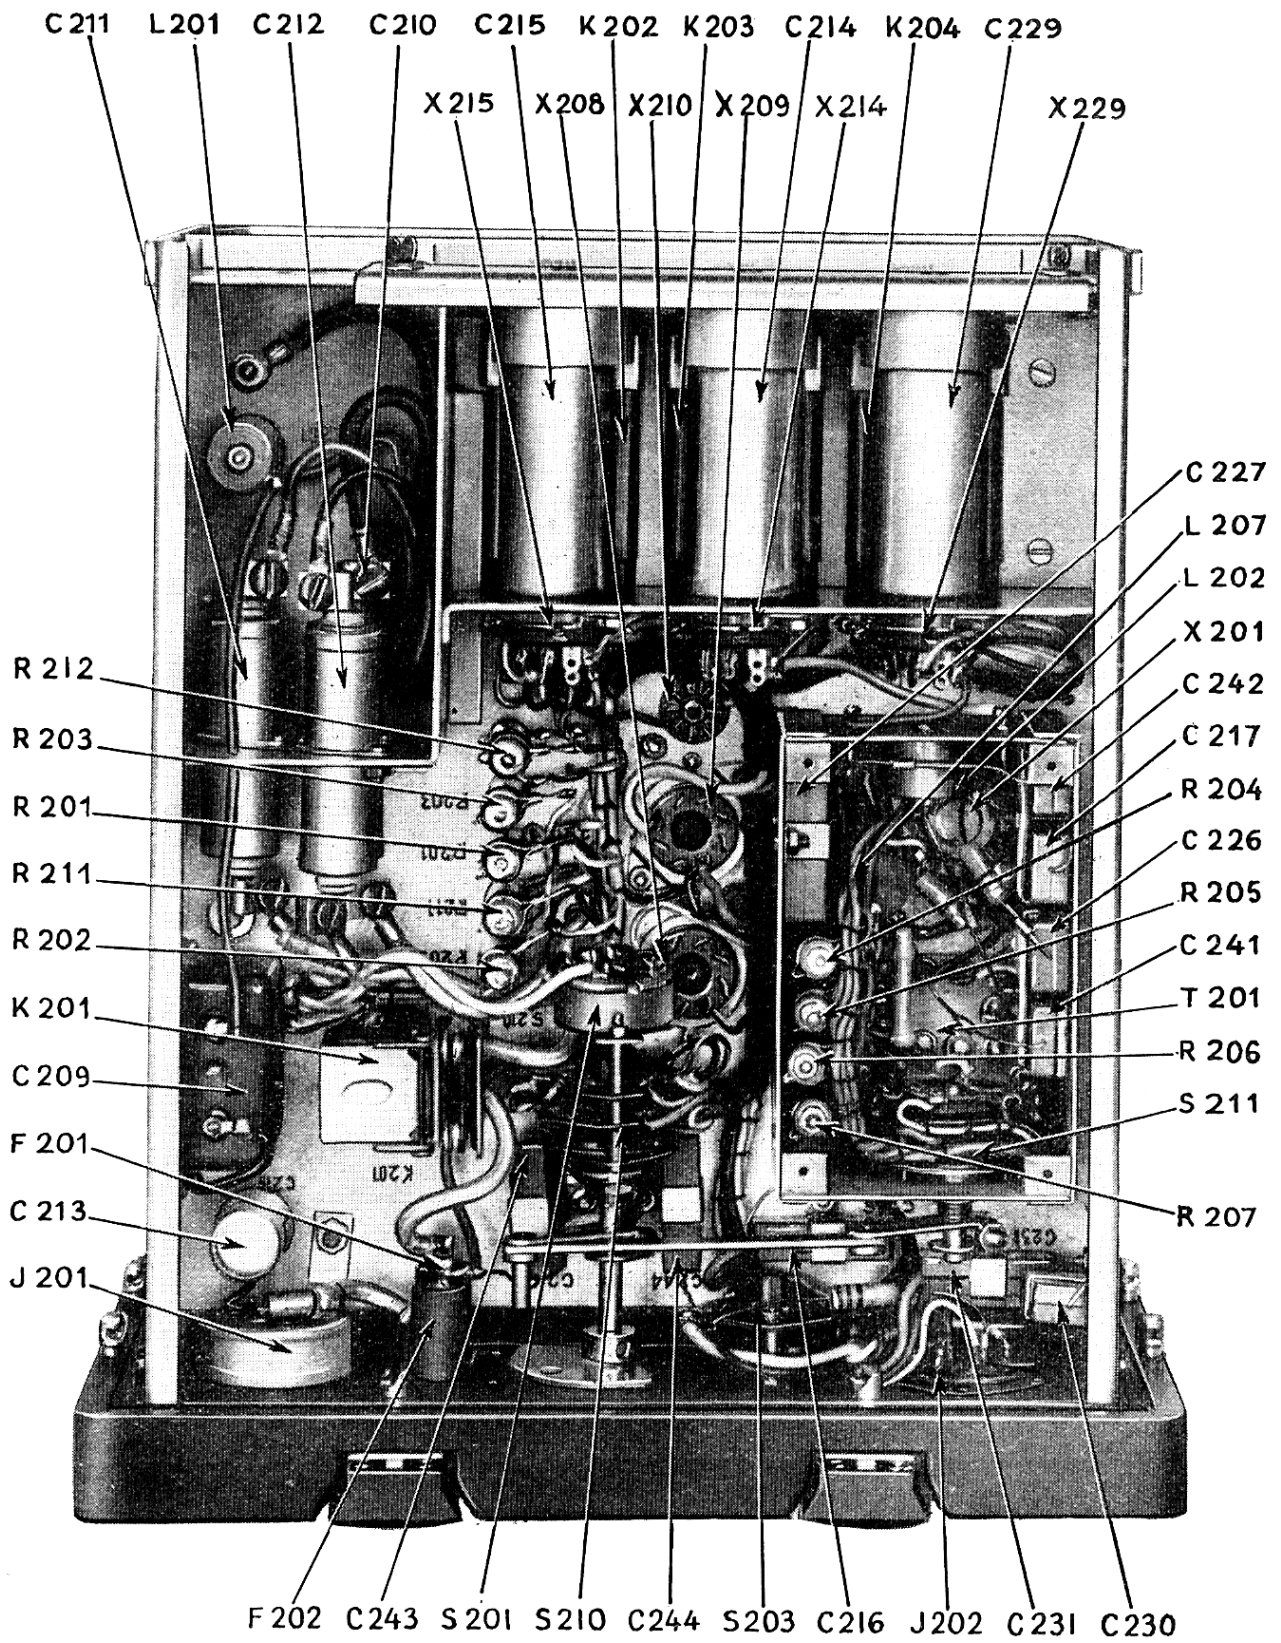
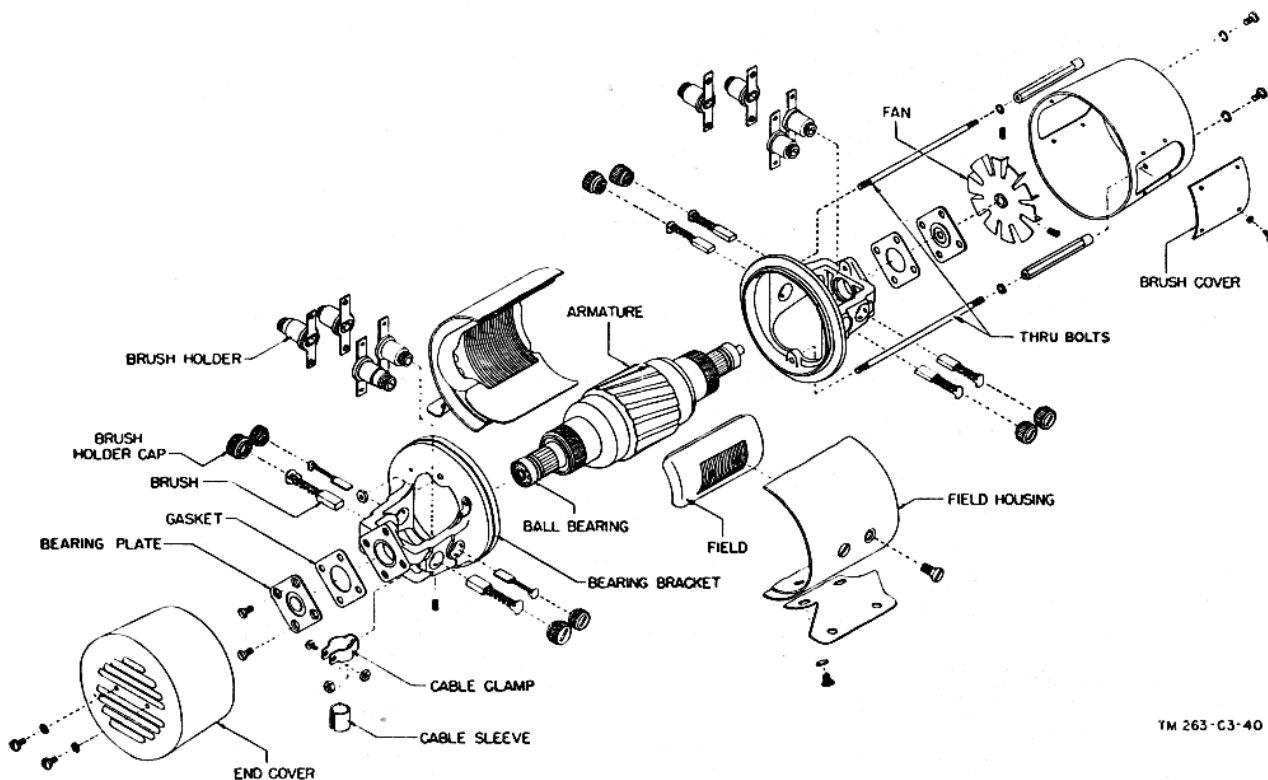

Figure 122.2. Dynamotor-Power Supply DY-88/GRC-9, cover removed, bottom view.
Figure 127.1. Typical dynamotor D201, exploded view.
(2) Capacitors C214, C215, and C229 (fig. 122.2) and relays K202, K203, and K204 are located on the under side of the chassis, toward the rear of the unit. To gain access to the capacitors and relays, first remove the two screws holding bracket to the unit. The capacitors and relays now can be removed.
(3) Do not attempt to repair the hermetically sealed relays. If they are defective, they must be replaced.
In order to trouble shoot the dynamotor power supply, it is necessary to remove the power supply from the case. Connect the power supply to a radio set known to be good. Set voltage selector switch control H206 (fig. 122.2) to the proper setting corresponding to the voltage of the battery to be used. Check the DYN FUSE. Be sure it corresponds to the voltage of the battery to be used as shown in paragraph 45.1*b*. Note that the terminals on output receptacle J202 are numbered (fig. 122.2). These terminals are to be used to check the output voltage of the dynamotor power supply.
(1) Disconnect the dynamotor wires at the under side of the chassis (fig. 122.2) by loosening the screws which hold the dynamotor wire spade lugs. *Tag all wires before removal.*
(2) Remove the four screws and nuts which hold the dynamotor to the chassis.
(3) Gently pull the dynamotor up off the chassis.
c. Remove the screws which hold the front and rear covers to the dynamotor. Remove the covers (fig. 127.1).
Page 163. Fig. 127. Insert figure 127.1 after figure 127.
Note. These measurements are made at output receptacle J202 (fig. 122.2) with the receiver-transmitter connected to the dynamotor power supply. The terminals on J202 are numbered (fig. 122.2). Figure 141. Insert figure 141.1 after figure 141.